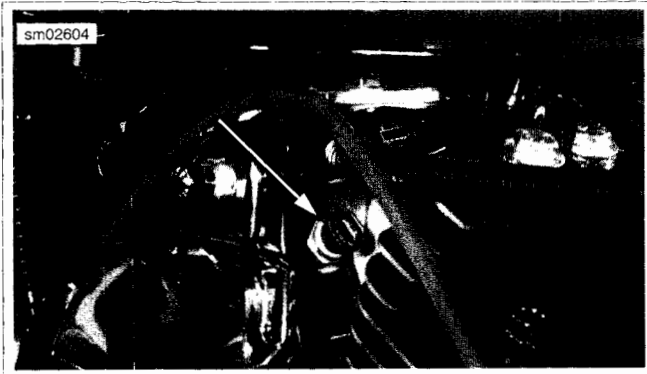

Figure 4-18. Engine Temperature Sensor
5. See Figure 4-18. Pull back boot to reveal ET sensor at back of front cylinder.